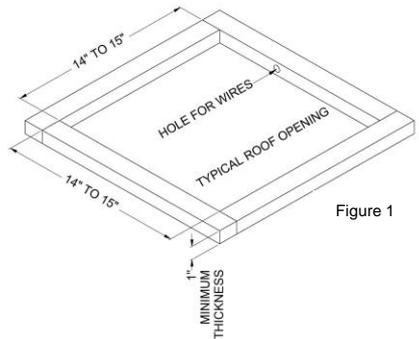

Figure 1
enlarged. If the opening exceeds 15" x 15", a mounting frame must be field fabricated to reduce the opening size (See Figure 1).
2. If a roof vent opening is not used, a new opening (See Figure 1) will have to be cut into the vehicle roof. A matching opening will also have to be cut into the interior vehicle ceiling. If the ceiling opening is carpeted, snagging could occur. After the opening in the roof and interior ceiling are the correct size, a framed support structure must be provided between the exterior roof top and the interior ceiling. The reinforced frame structure must provide the following:
Airxel, Inc. requires that the spacing from the vehicle roof top to the interior ceiling be no less than 1". A typical support frame is shown in Figure 1.